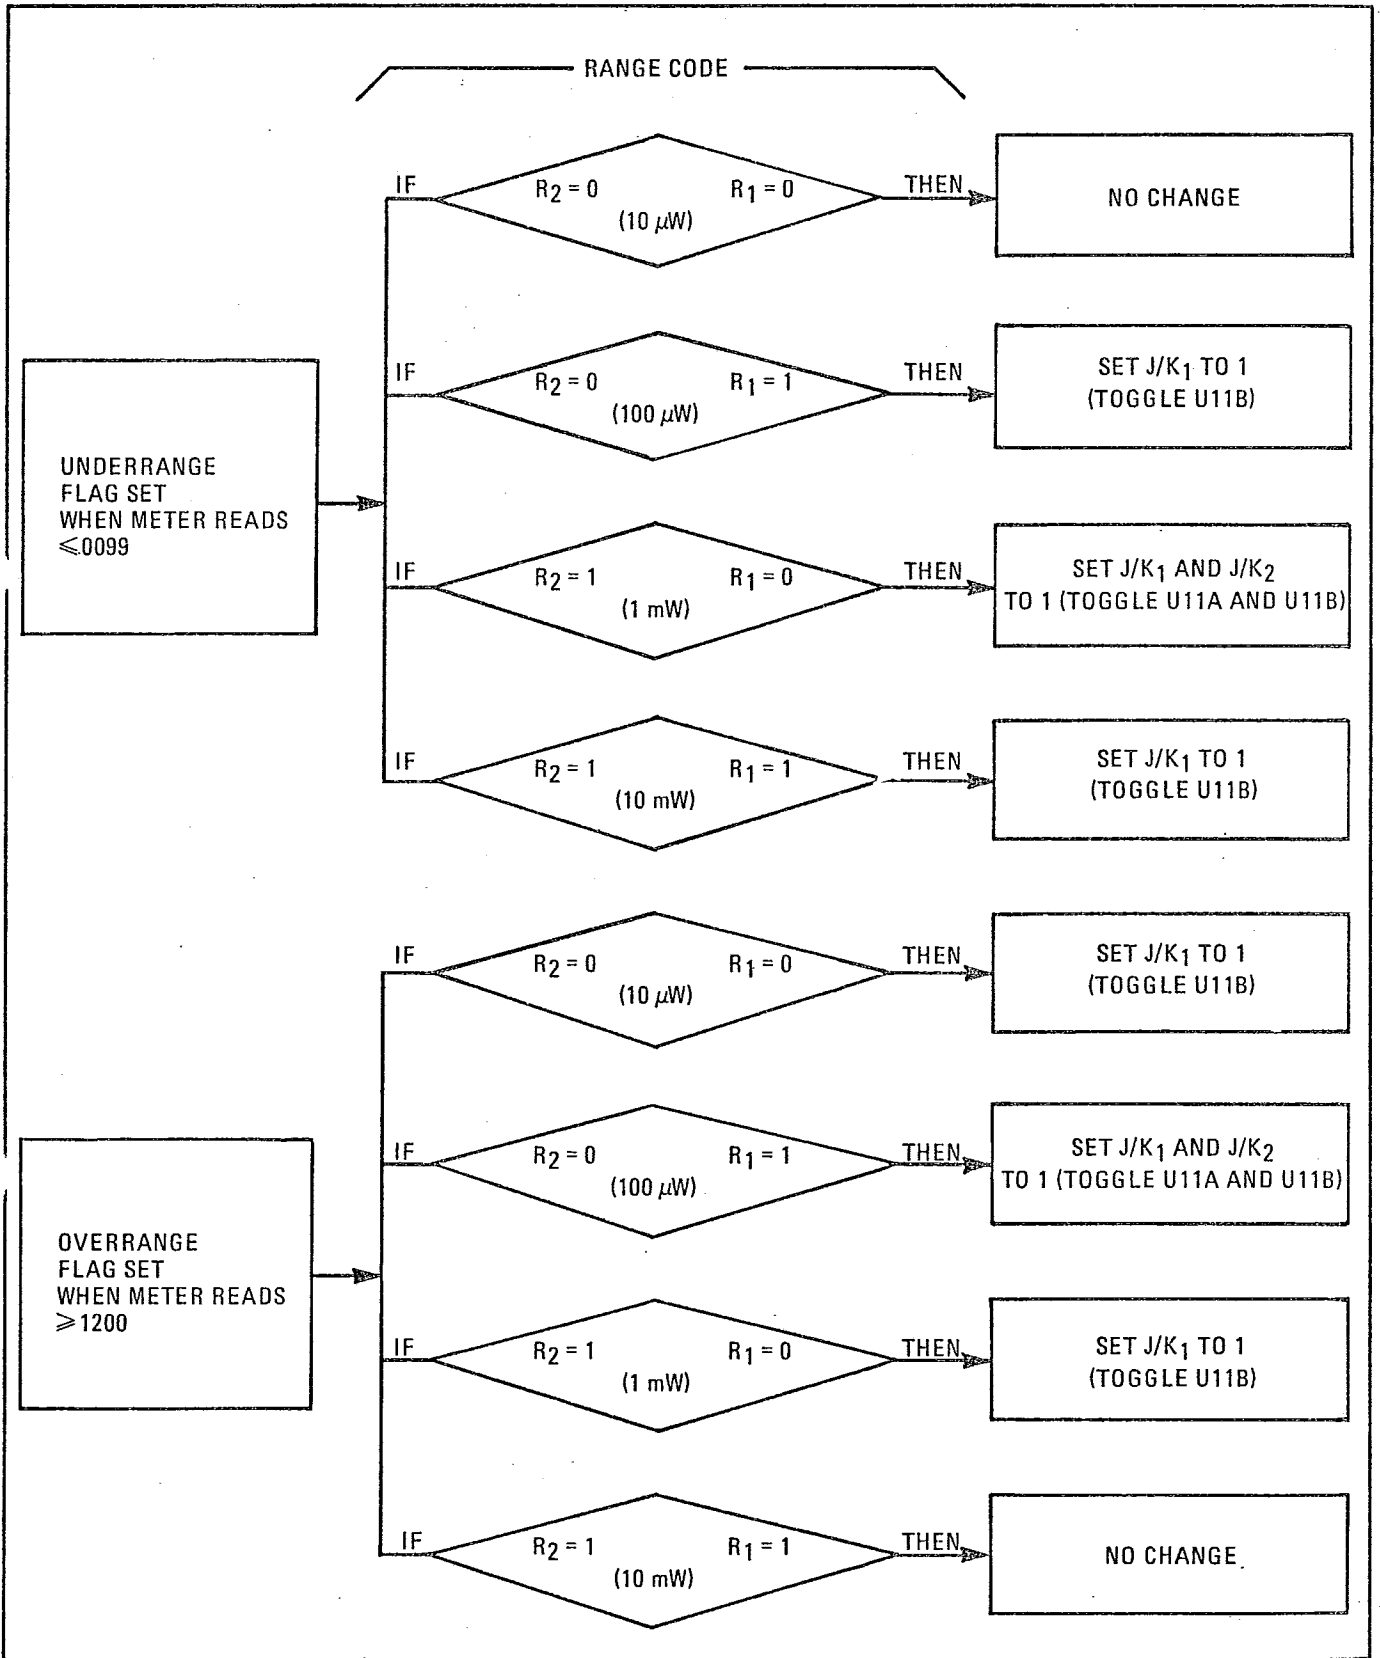

Figure 3. Up/Down Count Sequence
b. The current count (range code) of the counter. Figure 3 diagrams the decision making capacity of U4 and U6.